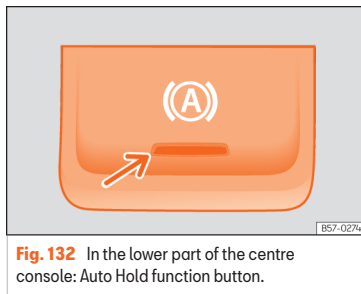

Fig. 132 In the lower part of the centre console: Auto Hold function button.
-  When the Auto-Hold function is active, the control lamp on the instrument cluster lights up green. The control light of the  >>> Fig. 132 button remains on when the Auto Hold function is connected.